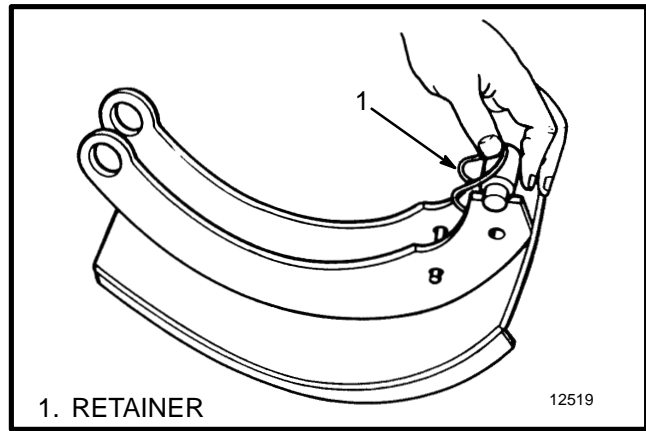

FIGURE 13.
11. Release the retainers for the rollers and remove the rollers from the brake shoes. See FIGURE 13.